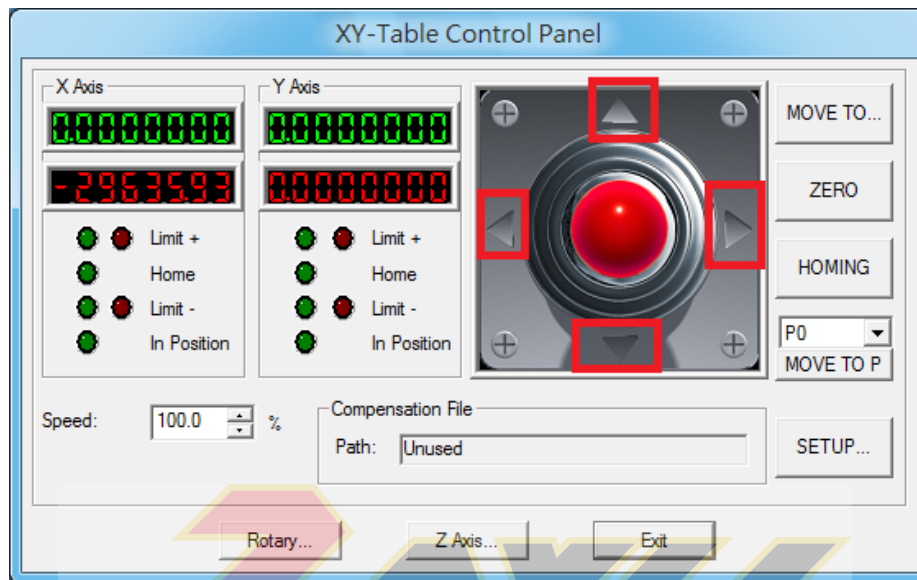

Fig. 7.2.01
After enabling X/Y Table, click  button and do the further setting, see Fig.7.2.01.
2. Click the four direction buttons (the red part of Fig.7.2.01) to move the XY Table.